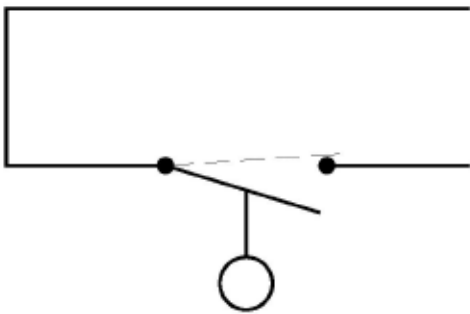

Fig. 1 - Normally Open/Closed
1. SPST reed switch: Connect wiring to switch leads or terminals per wiring diagram. See figure 1.